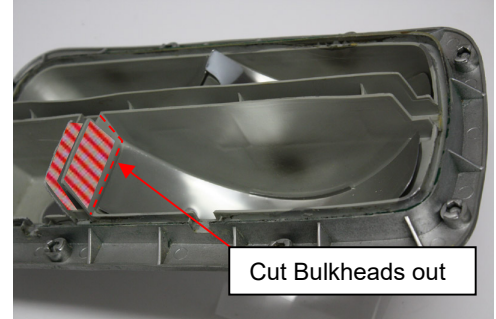

Figure 2
- 3.2. Using a utility knife & pliers or hacksaw blade, score & break or cut out the pair of plastic bulkheads separating the back up and turn signal light chambers as illustrated in Figure 2.